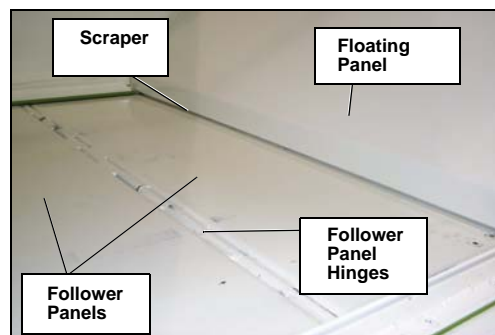

Figure 32. Extended packer
8. Check the follower panel hinges and make sure there is no wear on the panel surface (see Figure 32. “Extended packer”).
10. Inspect the scraper (see Figure 32. “Extended packer”).